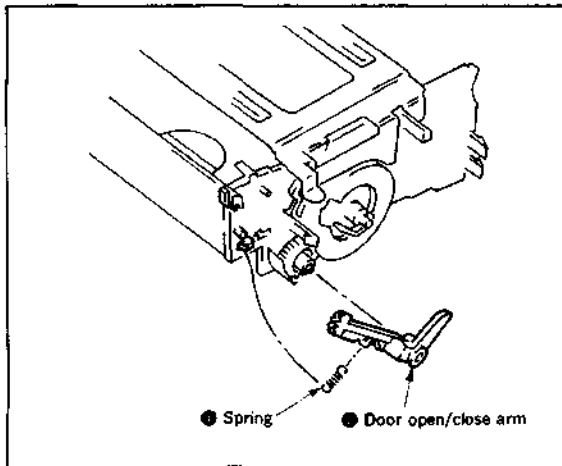

Fig. 3-5.
**3-1-5. Door OPEN/CLOSE arm (Fig. 3-5)**
- 1) Remove the spring ①.
- 2) Pull out the door OPEN/CLOSE arm ②.